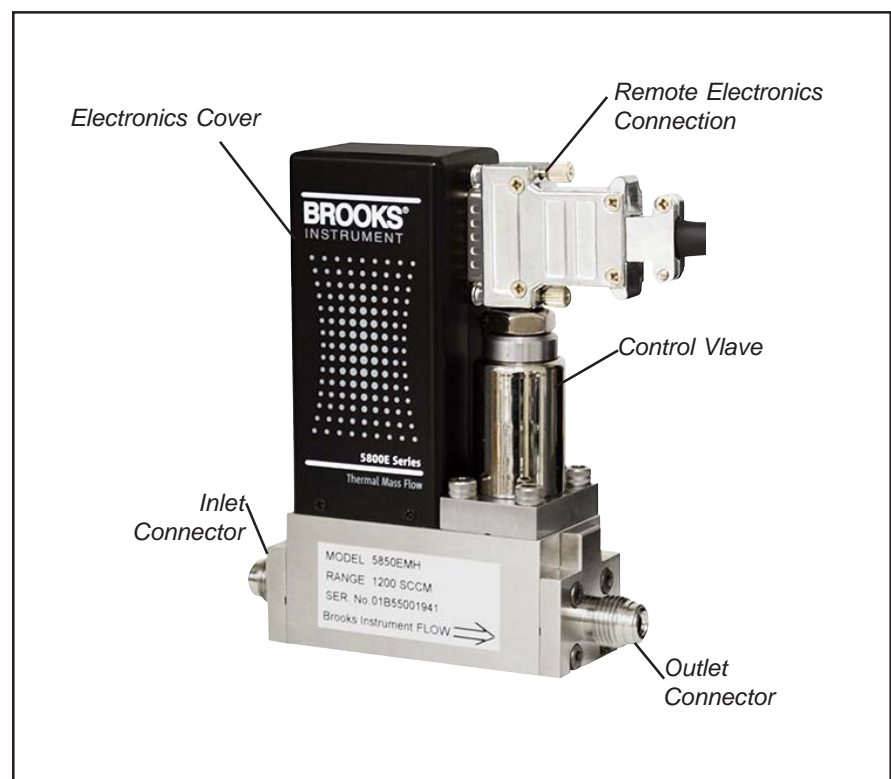
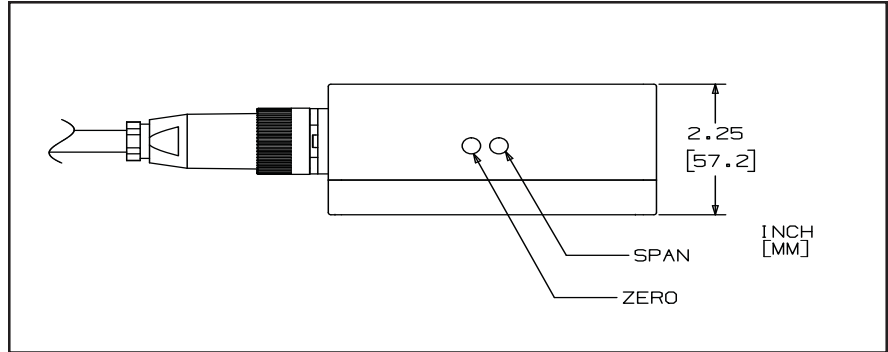
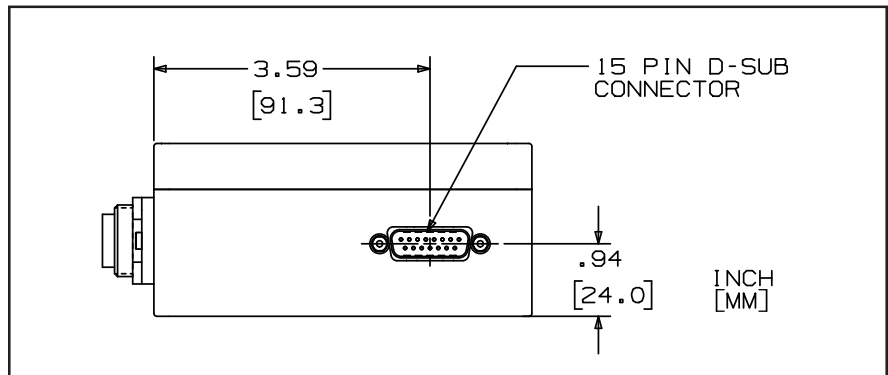
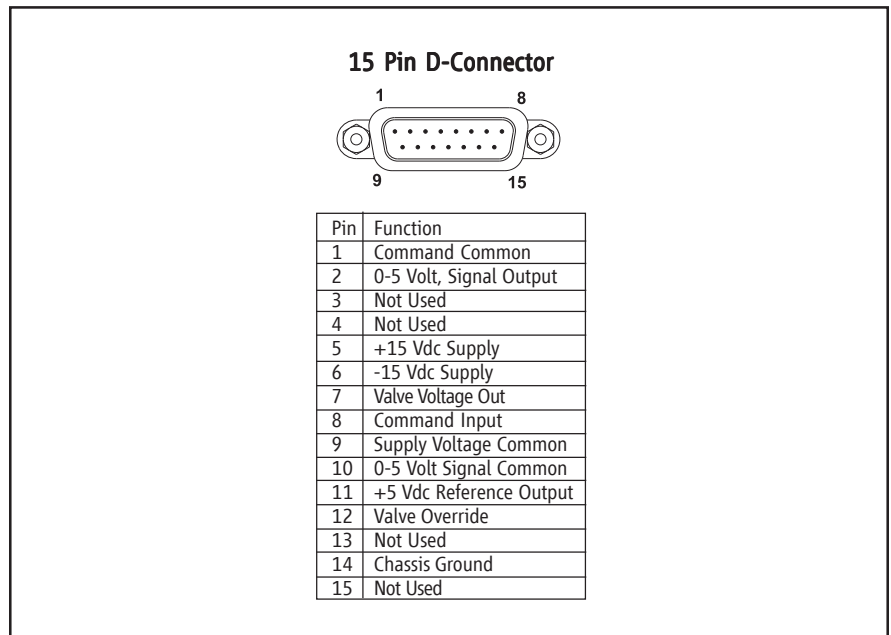

Figure 3-1 Model 585xEMH Controller Components
Figure 3-2 Externally Accessible Adjustments at Remote Electronics Box
Figure 3-3 External 15-Pin D-Sub Connector at Remote Electronics
Figure 3-4 15-Pin D-Connector Shielded Cable Hookup Diagram
To insure proper operation, the Model 585xEMH must be connected per Figure 3-4. As a minimum, the following connections must be made:
Figure 3-1 shows the locations of the Model 585xEMH controller connections. Figure 3-2 identifies the externally accessible adjustment potentiometers located on the remote electronics box on the side opposite the 15-pin D sub connector. Figure 3-3 shows the 15 pin D-sub connector. Figure 3-4 identifies the pin out diagram for the 15 pin D-sub connector.
A precision power supply provides a constant power heat input (P) at the heater which is located at the midpoint of the sensor tube. Refer to Figure 3-3. At zero, or no flow conditions, the heat reaching each temperature sensor is equal. The temperatures T1 and T2, therefore, are equal. When gas flows through the sensor tube, the upstream sensor is cooled and the downstream sensor is heated which produces a temperature difference. The temperature difference T2-T1 is directly proportional to the gas mass flow. The equation is:
All Model 585xEMH instruments are factory calibrated for optimum performance. The only potentiometer recommended for field adjustment is the Zero. Reference Figure 3-2 to access the Zero Potentiometer adjustment screw. N. B. We recommend removing the cover to ensure you are accessing the correct potentiometer. The Span Adjustment is also accessible by removing the plug on the remote electronics box adjacent to the Zero Potentiometer; however, its adjustment is not recommended as described below.
a. Once zero differential pressure is established and verified, check the flow output signal using a suitable voltmeter. If it differs from the factory setting, adjust it by removing the lower pot hole plug (refer to Figure 3-2) which is located closest to the 7-pin circular connector on the remote electronics module. Adjust the zero potentiometer until the desired output signal is within ± 10 mV of zero on the output of the device.